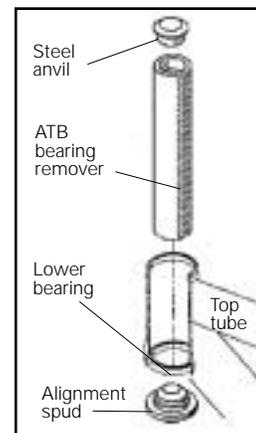

Fig. 50
7. Insert the large end of the **alignment spud** into the lower bearing (Fig. 50).